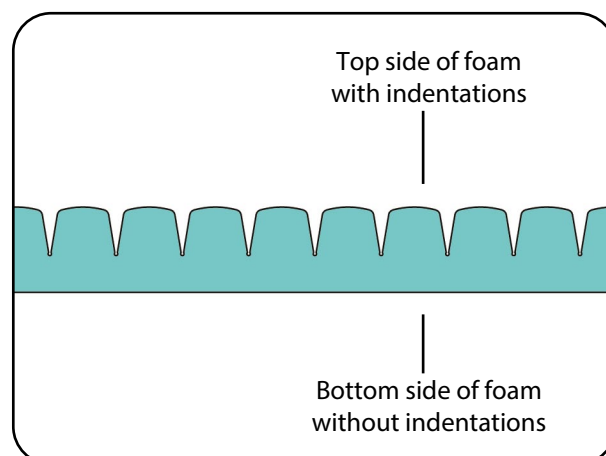

Fig. 6.1.01 – Cross-section of cube structure
- Make sure that the structured, cube-shaped surface of the product is facing upwards and the continuous foam side is facing towards the bed's reclining surface. The structured surface is the reclining surface (Fig. 6.1.01).